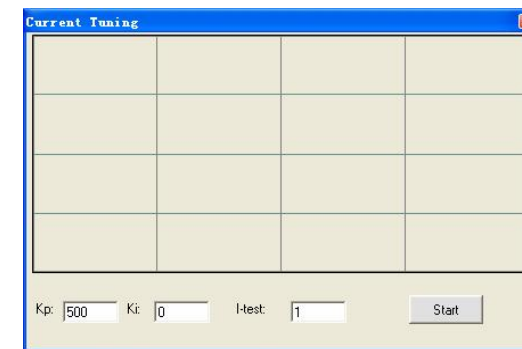

Figure 6-20: Initial value for Kp, Ki and I-test for current loop tuning
Step 1: See figure 6-20. Set **I-test** 1 and begin the tuning with small **Kp** and zero **Ki**. Here we give **Kp** 500. Please hit the “Enter” key after entering in the number.